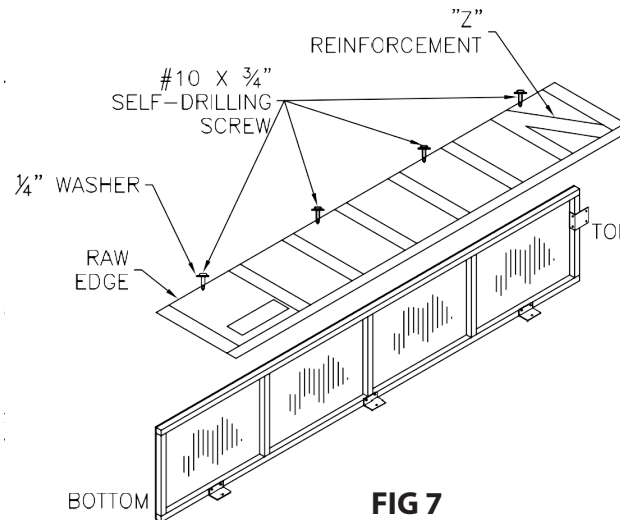
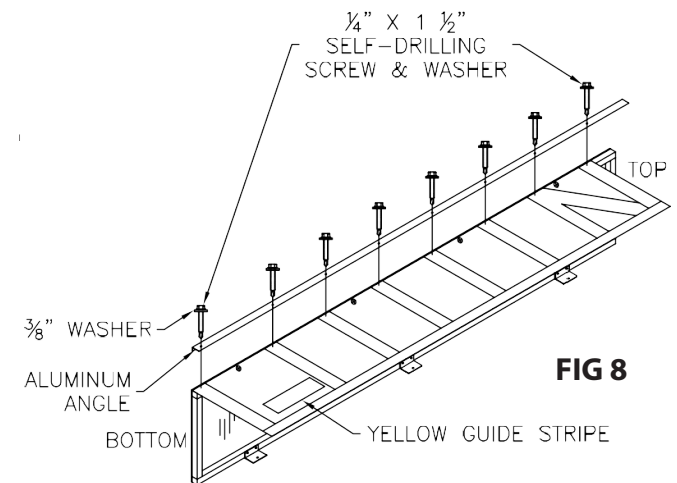

FIG 7
FIG 8
- Place bottom of Vertical Panel flush with bottom of Vertical Frame (Figure 7).
- Secure Vertical Panel between stays with three (3) other evenly spaced #10" self-drilling screws and 1/4" washers.
a. Match holes in Aluminum Angle with holes in Vertical Panel stays (Figure 8).